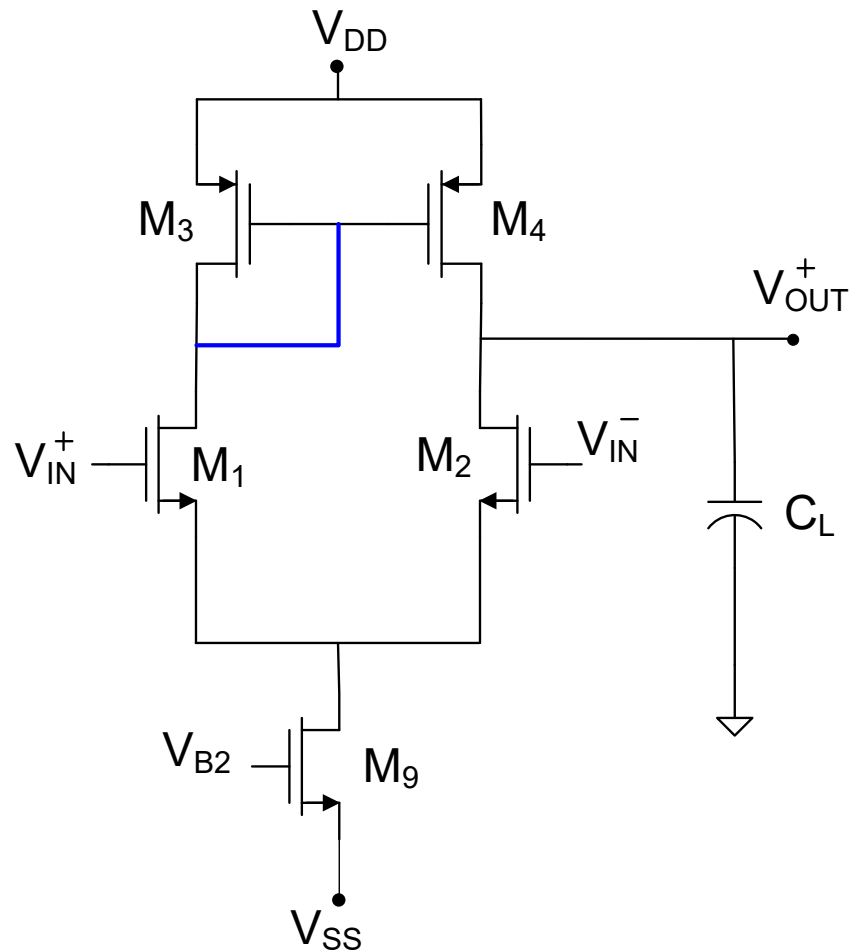

Fig. 2 Basic Operational Amplifier with Current-Mirror Biasing
Fig. 2 where the gates of  $M_3$  and  $M_4$  are connected so as to form a current mirror of the current in  $M_3$  to that in  $M_4$ .
**Part 2** Design an operational amplifier using the architecture of Fig. 2 that can drive a capacitive load of 10pF using an analytical formulation for the amplifier. This design should result in determining all of the natural design parameters for this circuit. The amplifier should have a GB of at least 10MHz, a dc voltage gain of at least 1000 when driving this load, and a p-p output swing of 0.5V for some common-mode input levels and some quiescent output level.